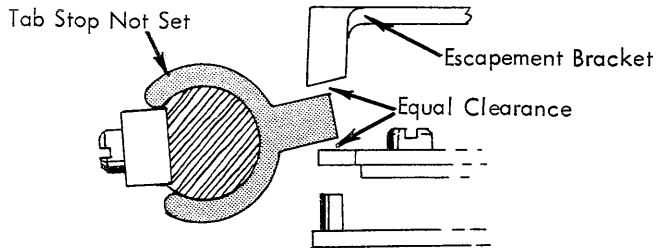
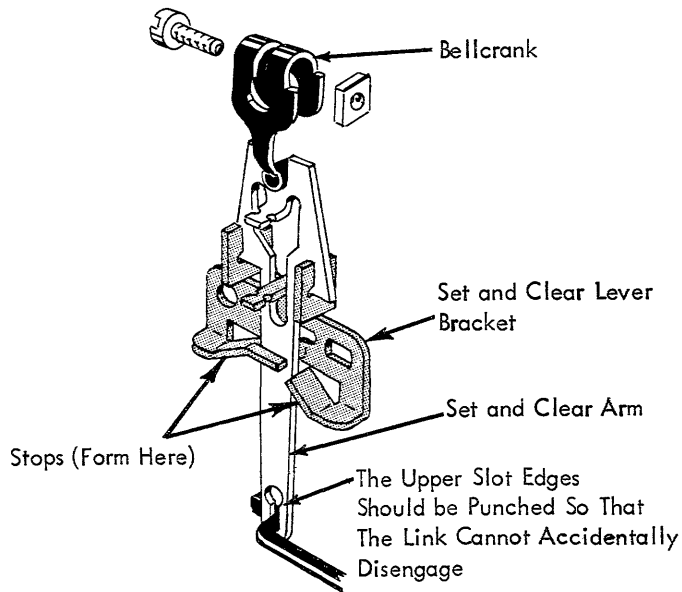

FIGURE 157. Tab Rack Bellcrank Adjustment
FIGURE 158. Set And Clear Arm Stops
1. Tab Rack Bellcrank - Adjust the bellcrank (Fig. 158) attached to the left end of the tab rack so that an unset tab stop is centered between the tab lever pawl and the tab set lug on the escapement bracket (Fig. 157). Latch the tab lever to the rear to check this adjustment.
3. Set and Clear Arm Stops - Form the stop lugs on the set and clear lever bracket (Fig. 158) so that they limit the movement of the arm just as the tab stop fully reaches its set or cleared position. Also, form the extension on the rear stop lug so the tab set and clear arm cannot pivot sideways out of engagement with the tab rack bellcrank.